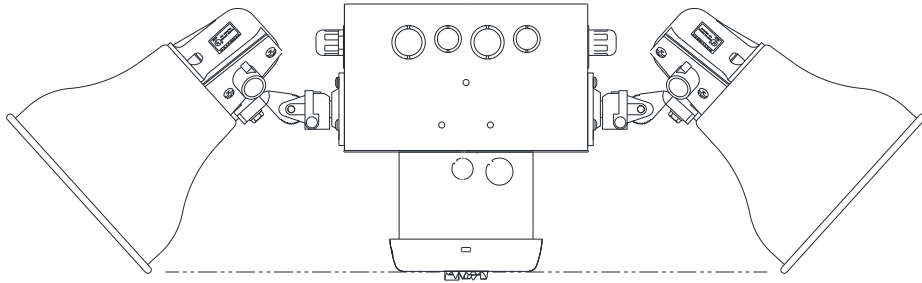

Figure 2: STH Shown with ELSTC Strobe (Side View)
3. Speakers shall NOT be positioned below strobe axis shown in Figure 2.